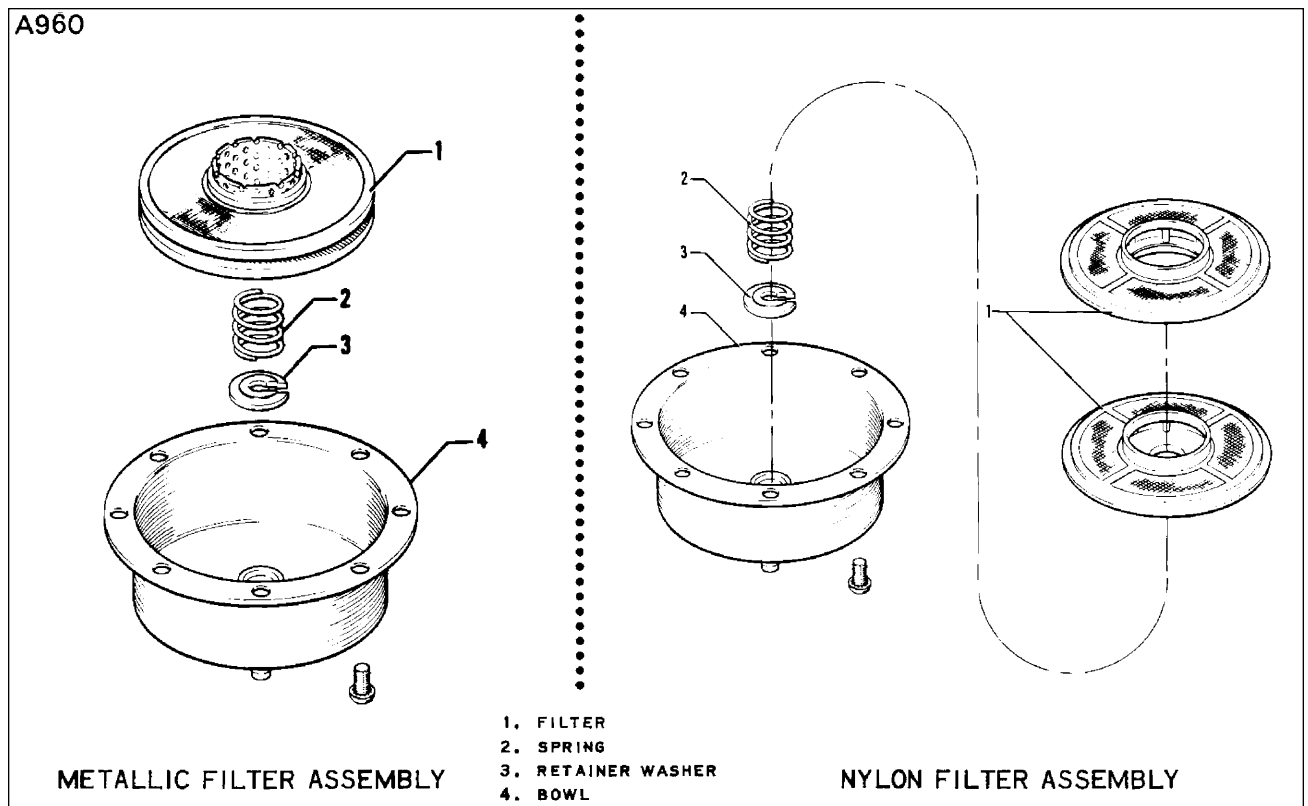

Figure 8-6. Fuel Filter
- c. Remove filter disc assembly from center stem by compressing filter retainer spring and removing filter retainer washer. (Refer to Figure 8-6.)